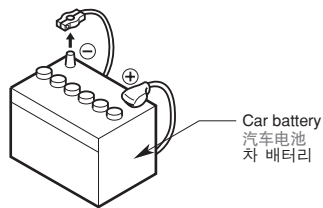

Figure 1 / 图 1 / 그림 1
- Be sure to disconnect the battery "⊖" terminal before starting. This is to prevent short circuits during installation. (Figure 1)
- 开始之前请务必断开电池的“⊖”端子, 以免在安装中造成短路。(图1)